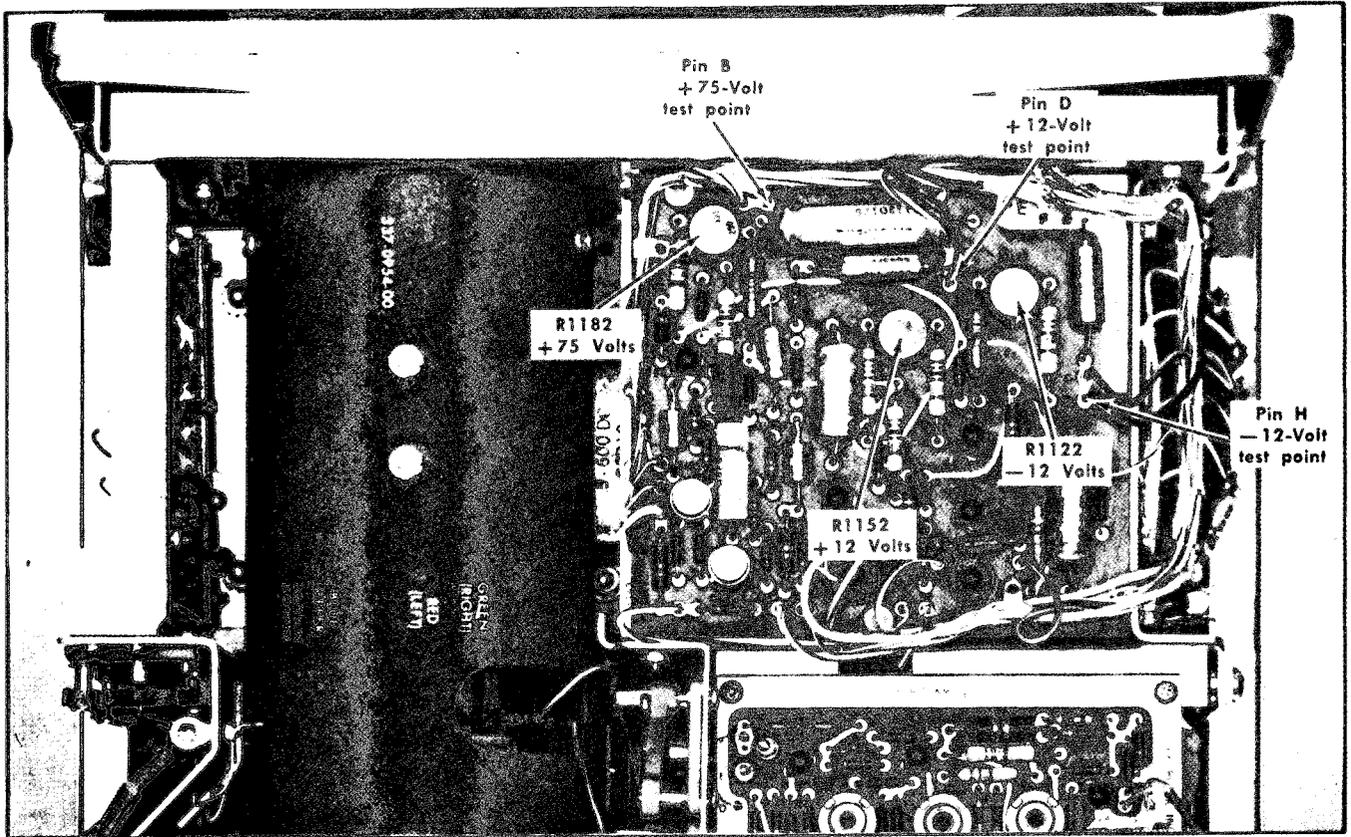

Fig. 6-4. Low-voltage power supply test points and adjustments (Low-Voltage Regulator circuit board).
- b. Connect the precision DC voltmeter from the -12-volt test point (pin connector 'H', Low-Voltage Regulator board; see Fig. 6-4) to chassis ground.
- d. ADJUST- -12 Volts adjustment, R1122 (see Fig. 6-4), for -12 volts.
- d. ADJUST- +12 Volts adjustment, R1152 (see Fig. 6-4), for a +1 volt meter reading.
- h. Connect the precision DC voltmeter from the +12-volt test point (pin connector 'D', Low-Voltage Regulator board; see Fig. 6-4) to chassis ground.
- a. Connect the precision DC voltmeter from the +75-volt test point (pin connector 'B', Low-Voltage Regulator circuit board; see Fig. 6-4) to chassis ground.
- c. ADJUST- +75 Volts adjustment, R1182 (see Fig. 6-4), for +75 volts.